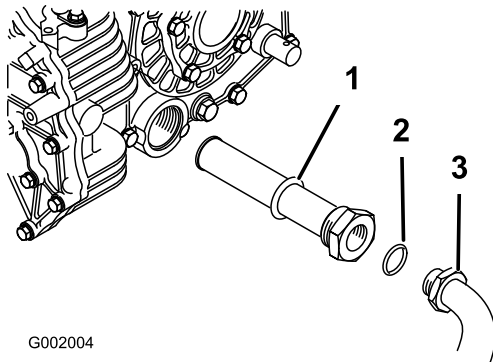

Figure 53
5. Remove the hydraulic hose and 90° fitting (Figure 53).